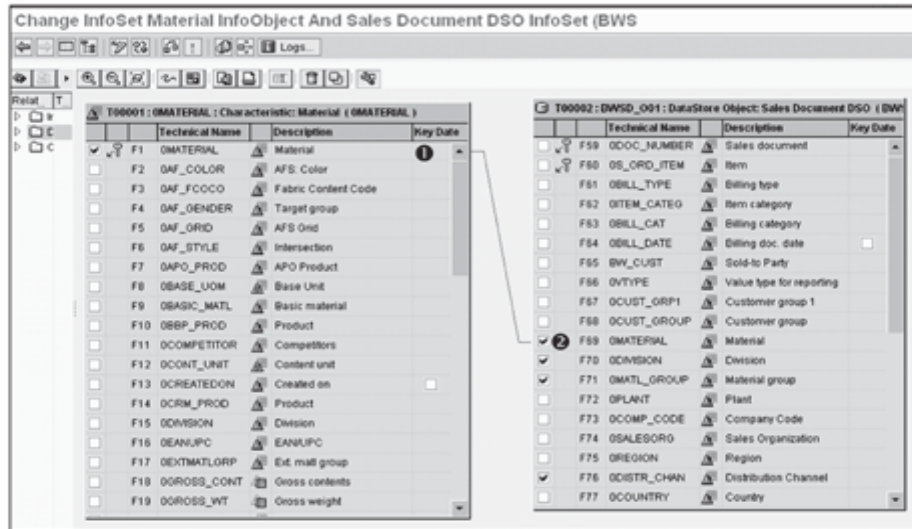

Figure 6.23 Joining Two Sources
SAP NetWeaver BW now creates a join between field OMATERIAL of source object T00001 and field OMATERIAL of source object T00002. This is shown as a link from ① to ② in Figure 6.23.